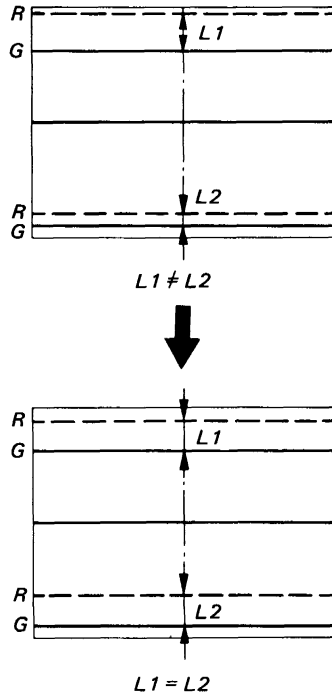

Fig. 3-28
- (5) Adjust RV5523 (V SIZE (R)) so that the red horizontal lines coincide with the green horizontal lines or "L1" is equal to "L2" in the middle screen as shown in Fig. 3-28.